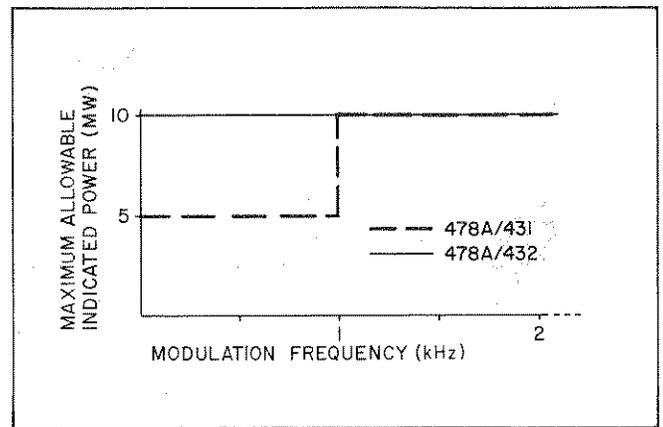

Figure 3. Maximum Power Meter Reading vs Square and Sine-Wave Frequency
16. Square-wave modulation is a special case of pulse modulation, and maximum power-meter reading versus square-wave frequency is illustrated in Figure 3. This figure also holds for sine-wave modulation.